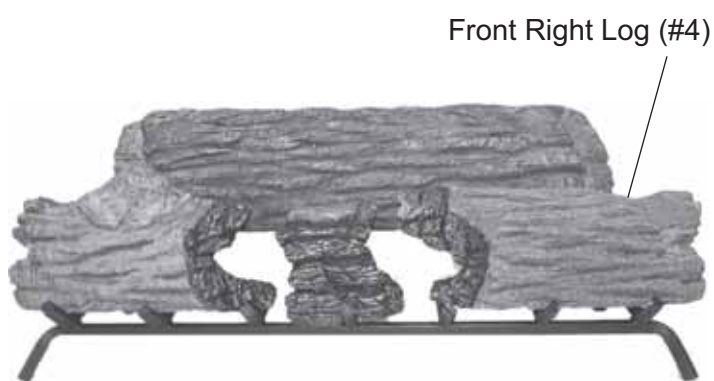

Figure 39 - Placing Right Front Log (#4)
5. Place front right log #4 in front of the plate and to the right. *See Figure 39.*